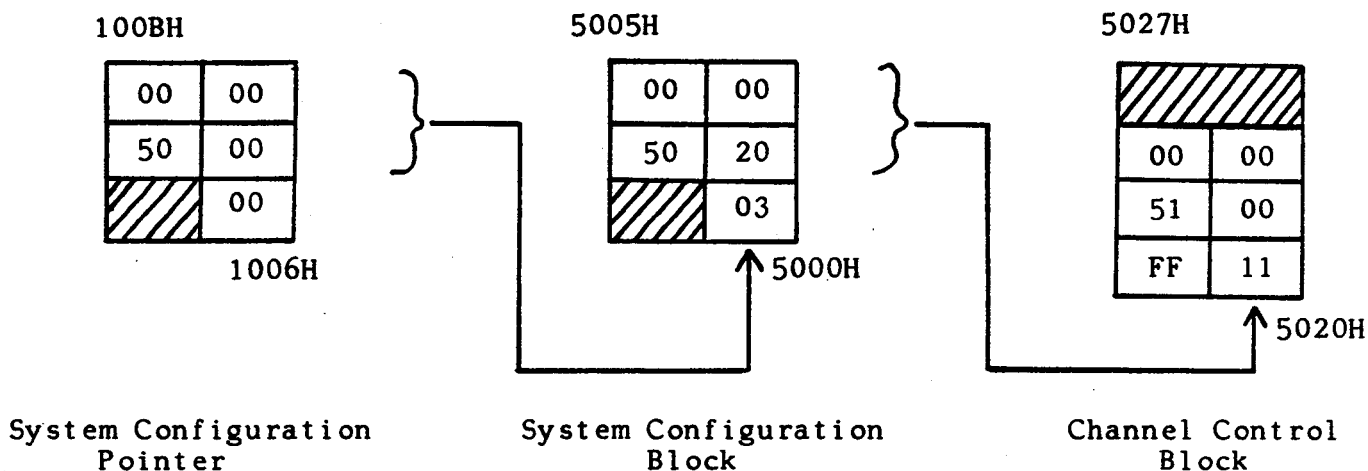
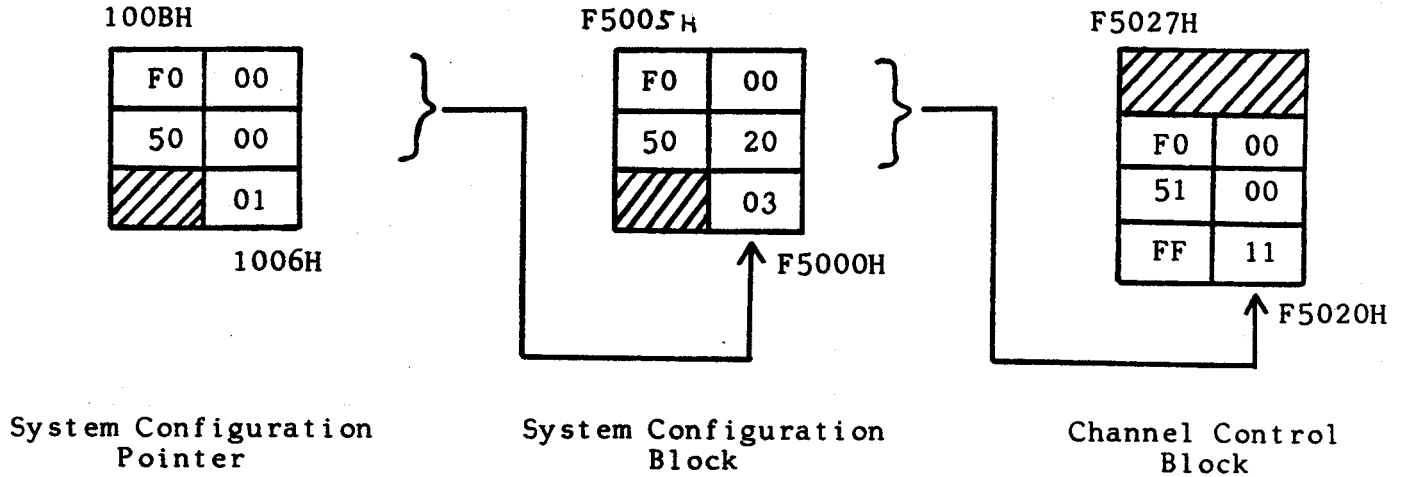

Fig. 3-1 Initialization Blocks for an 8-bit system.
Fig. 3-2 Initialization Blocks for a 16-bit system.
Before the TAPEMASTER can execute commands properly, it must be initialized. Initialization is the procedure which assigns permanent values to some of the programmable addresses associated with command execution. It involves setting up three short blocks of data in system memory, and then issuing a Channel Attention to the TAPEMASTER. The Initialization Blocks for a host system with an 8-bit data bus are shown in Fig. 3-1.
At the completion of the Initialization process, using the example values of Fig. 3-1, the following have been accomplished:
- A. The location of the Channel Control Word (CCW) is fixed at 05020H (F5020H in Fig. 3-2).
Shown in Table 3-1 is an 8080/8085 program to execute the Initialization sequence of Fig. 3-1.
The Initialization Blocks for a host system with a 16-bit data bus are shown in Fig. 3-2. These blocks are similar to Fig. 3-1, except that a 16-bit system is specified (01006H=01). This example also indicates how the blocks may be located beyond the 64K byte range by specifying non-zero values in the Pointer Bases.